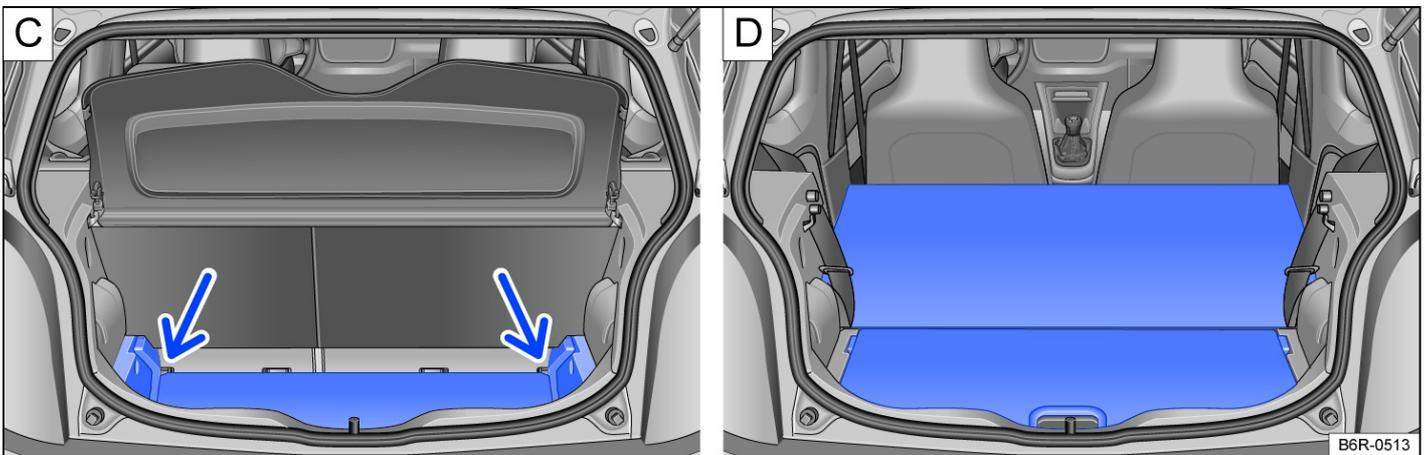

Fig. 2 In the luggage compartment: **C** extending the luggage compartment downwards. **D** luggage compartment extended to the front.
- Lift the luggage compartment floor and push down → Fig. 2 **C** (arrows).
- If necessary, lower the luggage compartment floor → Fig. 2 **C**.
Luggage compartment extended to the front → Fig. 2 **D**.